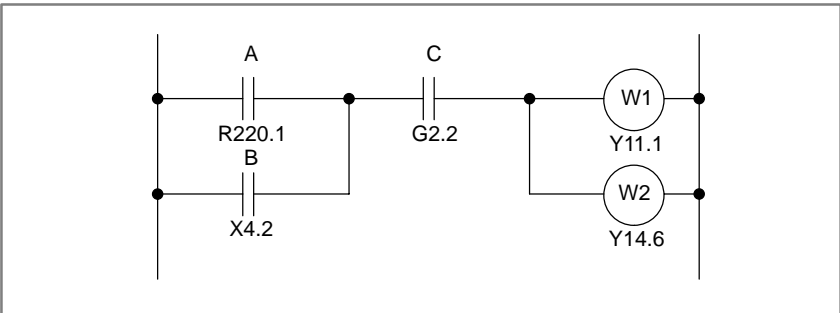

Fig. 4.1.3 Ladder diagram
(1) Format
- (2) Outputs the results of logical operations, that is, the status of ST0 to a specified address.
- (3) The results of one logical operation can also be output to two or more addresses. How to use the WRT instruction in this case is shown in Fig. 4.1.3 and Table 4.1.3.
Table 4.1.3 Coding for Fig. 4.1.3